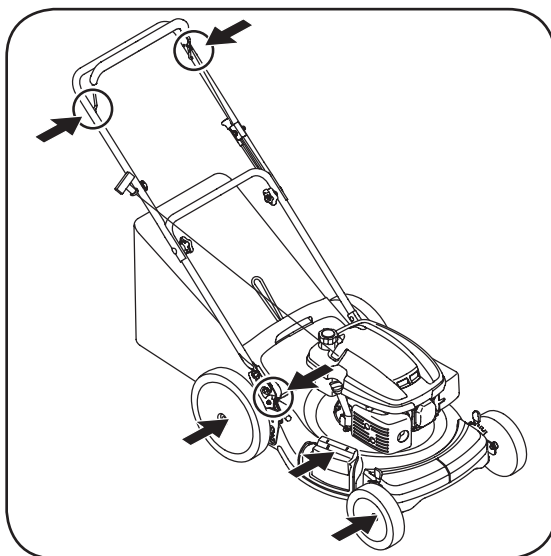

Figure 5-1: Areas to lubricate on mower.
1. Lubricate pivot points on the blade control at least once a season with light oil. The blade control must operate freely in both directions, Figure 5-1.
2. Lubricate the wheels at least once a season with light oil (or motor oil). If wheels are removed for any reason, lubricate surface of the pivot arm and inner surface of the wheel with light oil, Figure 5-1.
3. Lubricate the torsion spring and pivot point on the rear discharge door and side mulch plug periodically with light oil to prevent rust, Figure 5-1.